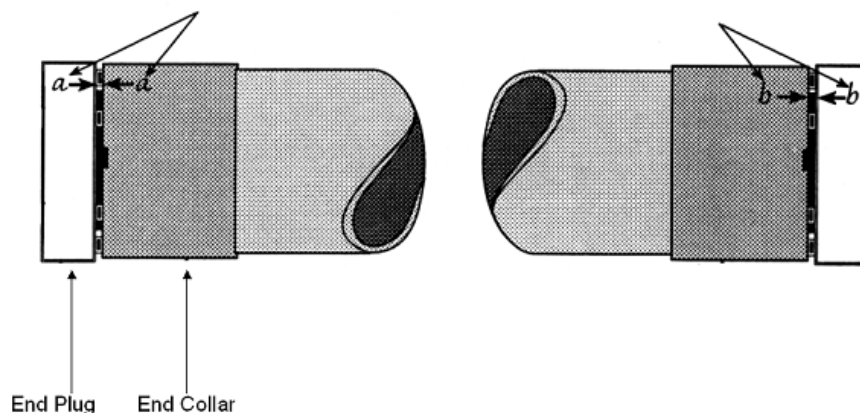

Figure 6.2 – Membrane Corresponding Mark Placement.
Step 2: Remove the six fasteners and cap ring holding each end plug with an Allen wrench. Place a mark on each end plug to be removed, place a corresponding mark on each end collar. This will ensure proper orientation during assembly. Refer to Figure 6.2.